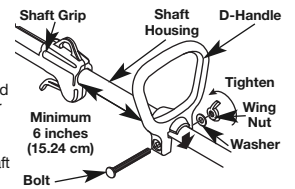

Fig. 1
- Push the D-handle down onto the shaft housing so that the handle slants towards the shaft grip (Fig. 1). The squared bolt hole in the handle is to the right.